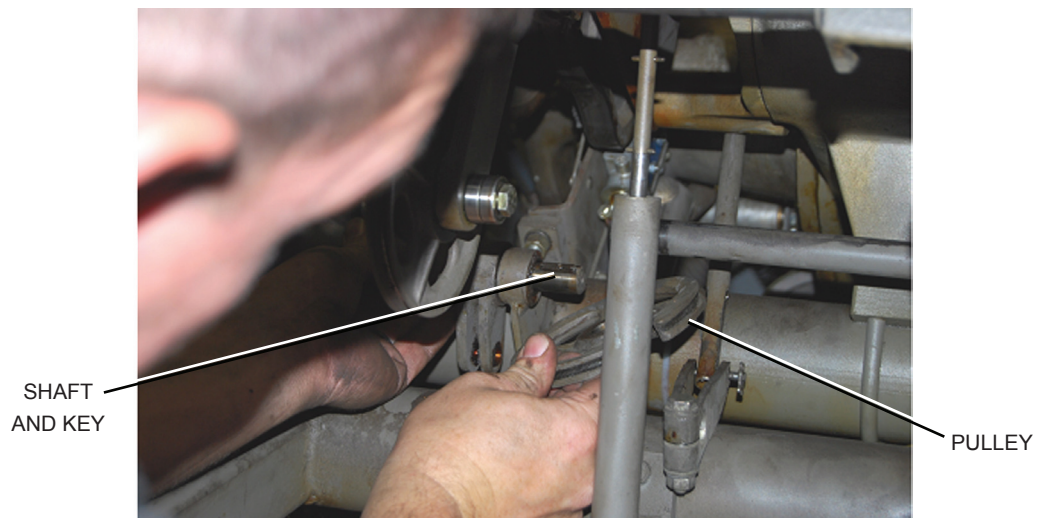

Figure 14
8. Repeat the procedure in Step 6 to remove the upper deck jam control pulley on the right side. Refer to *Figure 14*.